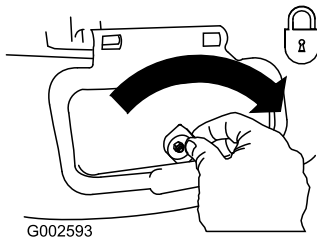

Figure 32
**Important:** Lock the side-discharge door after you close it (Figure 32).